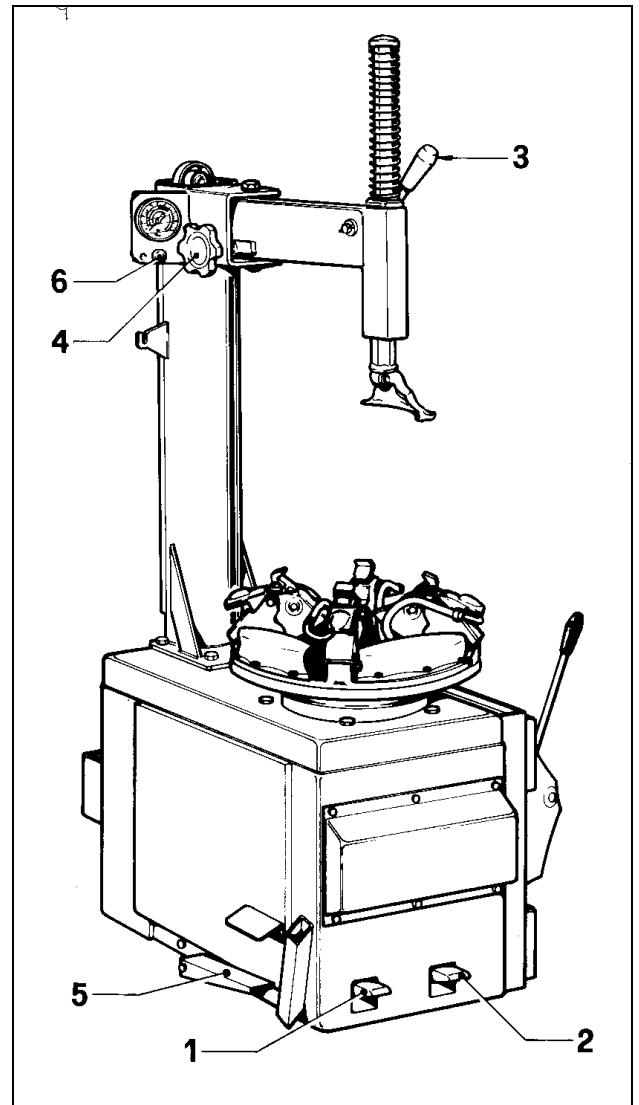

Fig.14
A. Press down and release the left pedal (#1 Fig.14) and the rim clamps will move inward.
Press down and hold the right pedal (#2 Fig.14) and the bead breaker arm will move towards the machine.
C. Close the bead breaker arm. Press down and hold, the right pedal (#2 Fig.14) and the turntable turns clockwise.
D. Move the lock handle (#3 Fig.14) up to lock the vertical slide, pull it down to release it.
E. Use the adjustment knob (#4 Fig.14) to position the mount/demount head for different diameter wheels.
F. Push inflation pedal #5 Fig.14 half stroke: air flows from hose.
G. Press the air inflator full stroke (#5 Fig.14) and a large volume of air will flow from the inflator jets of the clamps to seat the beads of tubeless tires. Air will simultaneously flowing from inflation hose.
H. Deflation of the tire is possible by pushing exhaust button (#6 Fig.14).